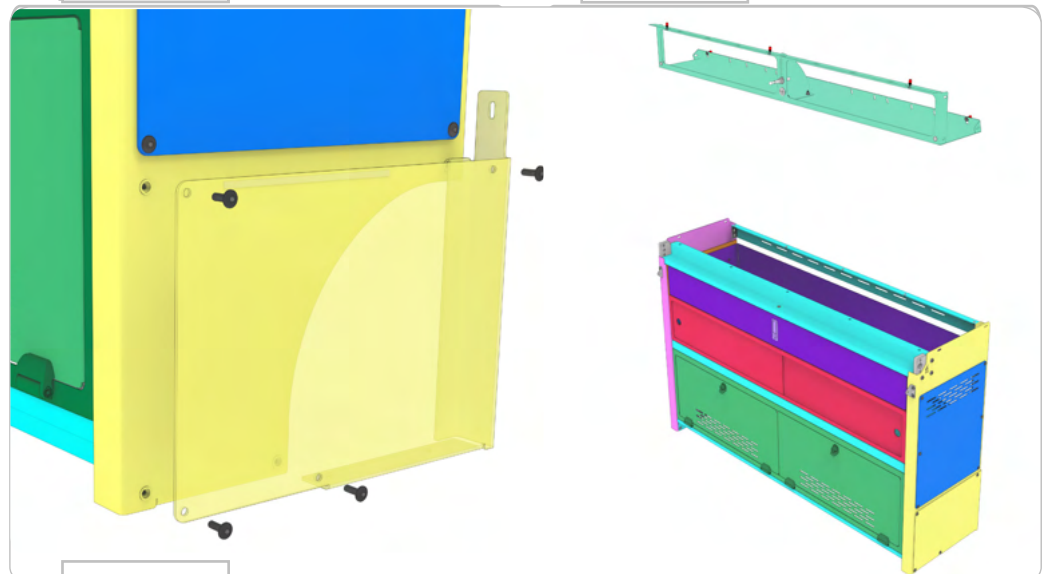

FIG 65
**NOTE** - If your **Murphy Bed** is installed in a **170" Wheelbase Sprinter**, you'll need to remove one **Wheel Well Cover** from each cabinet. To do this, remove the (4) 1/4-20 x 0.75" **Flanged Button Head Screws, Flat Washers and Locknuts** along the front and (1) 1/4-20 x 0.75" **Carriage Bolt with Flat Washer and Nylon Locknut** on the side securing the **Cover** to the **Cabinet End** (FIG 65). The specific side depends on whether the **Hinge/Table Cabinets** are installed on the **driver or passenger side**.